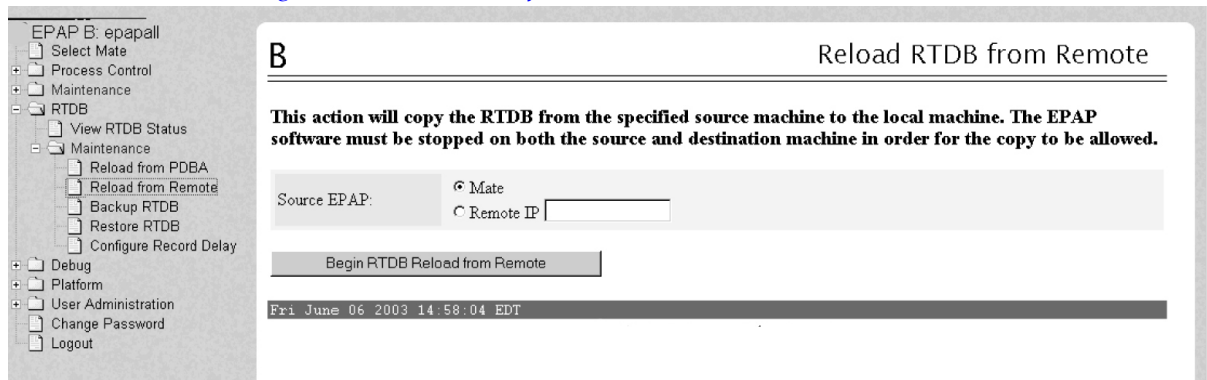

Figure 31: Reload RTDB from Mate EPAP
The screen shown in Figure 31: Reload RTDB from Mate EPAP shows this function.
7. Make sure that the **Mate** radio button is filled in, as shown in Figure 31: Reload RTDB from Mate EPAP and click the **Begin RTDB Reload from Remote** button.
8. Click the **Reload** button as shown in Figure 31: Reload RTDB from Mate EPAP.
8. Make sure that the **Mate** radio button is filled in, as shown in Figure 31: Reload RTDB from Mate EPAP and click the **Begin RTDB Reload from Remote** button.